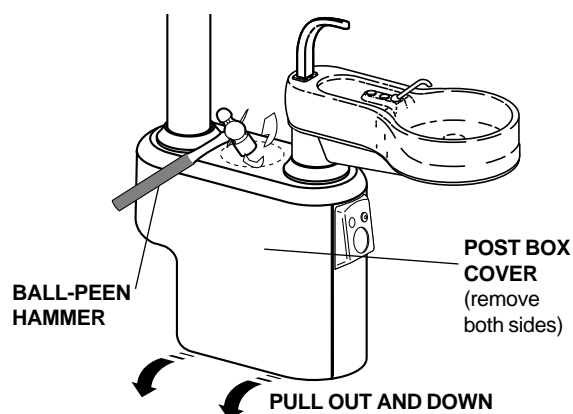

FIGURE 4
5. Using a Ball-peen hammer, knock out the center hole in the post box top (see Figure 4).
6. Remove the post box side covers (see Figure 4).